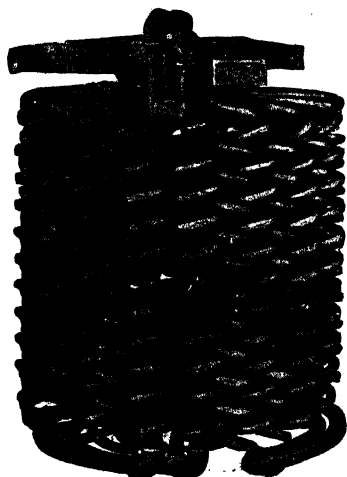

Fig. 39. Ofeldt Safety Water-Tube Boiler
*Ofeldt.* The Ofeldt safety water-tube boiler, Fig. 39, is built about a central standpipe of 5 inches or more in diameter, with a bottom of  $\frac{1}{2}$ -inch metal welded in. Threaded into the upper end of the standpipe is a steel cap with three arms, to the ends of which the sheet-metal hood, or cover, is fastened.
Water is fed to the bottom of the standpipe, from where it flows into the coils. As it passes up the coils it turns into steam. A pipe from the center of the standpipe carries the steam down to the superheater, which lies under the boiler directly over the burner, as shown in Fig. 39. From the superheater the steam is carried by the second straight pipe back to the top of the boiler and then to the engine.